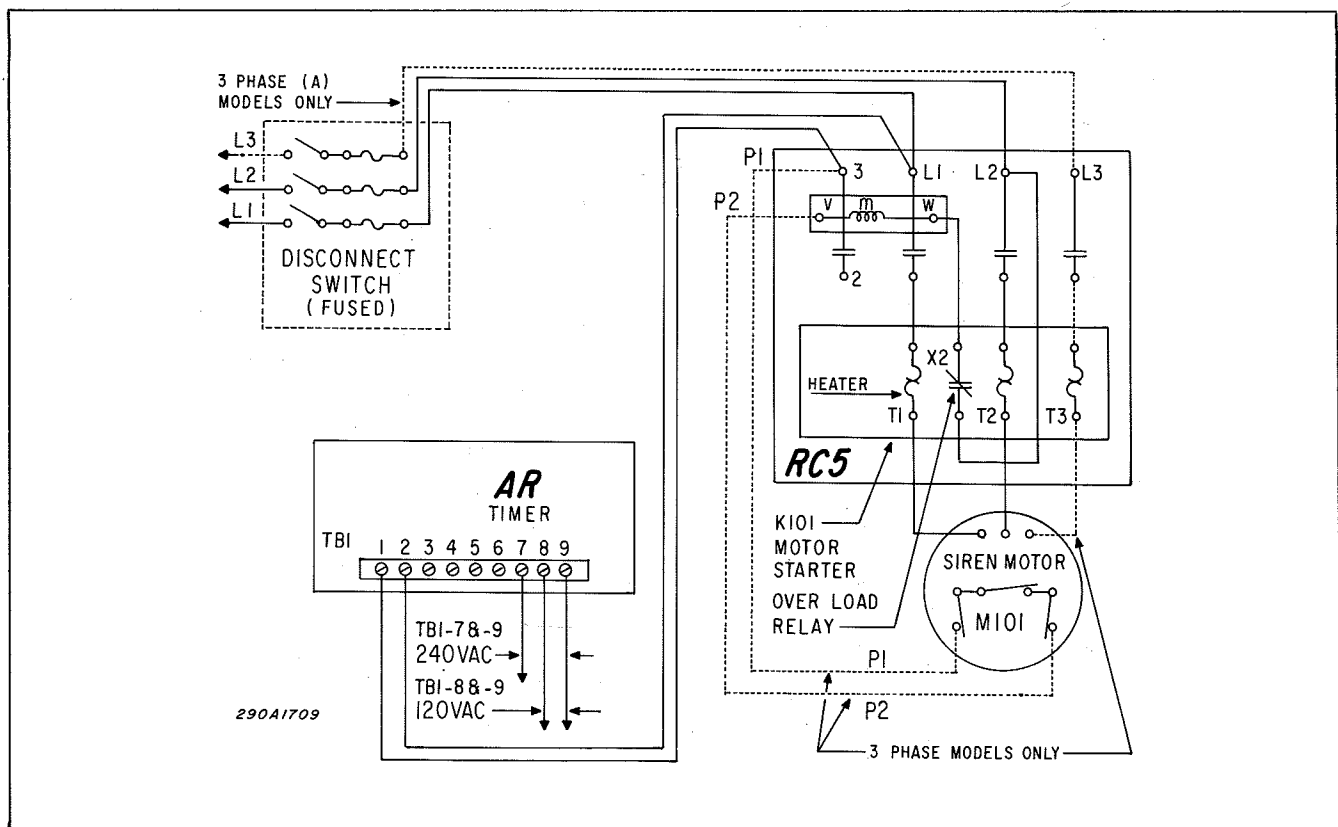

Figure 3-5 RC5 (Standard) Electrical Connections
The power and control circuitry of a typical siren installation is shown in figure 3-5. The wiring diagram of the Model RC5 Motor Starter is also shown in the figure. The Model RC5 or RC5W can be used to control all sirens.
To connect the motor starter and siren to the power source and control circuitry, proceed as follows (see figure 3-5):
5. Three phase (A) models only. Route two 12AWG insulated wires from terminals V and 3 on the motor starter to P1 and P2 in the siren motor junction box. Disconnect the jumper wire between terminals V and 3 (see figures 3-5 and 3-6).
As shown in figures 3-5 and 3-6, the motor starter includes an overload relay. The relay protects the motor starter and motor if excess current is drawn. The overload relay is activated when there is sufficient current through one or more of its heaters to cause the heater(s) to expand enough to open the relay contacts. The opening of the relay contacts opens the motor starter control circuit. As a result, the motor starter de-energizes, which protects the circuit against damage. After the motor starter de-energizes, the relay contacts reset automatically when the heater(s) cools. The overload relay can also be reset manually after about one minute.